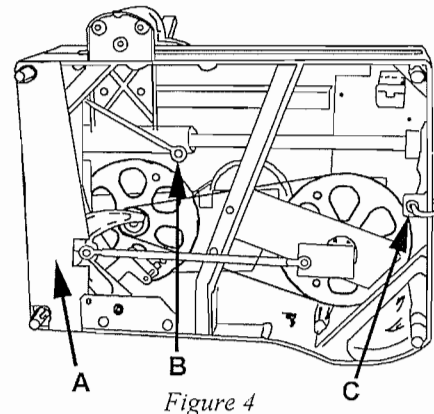

Figure 4
2. Remove the rubber shoes and, with a pair of Vice Grip pliers, remove the upper left leg. This allows you to remove the Aluminum Base Shield Panel, Figure 4, A, which covers the Shift Assembly.
3. Remove the Heyco strain relief clamp that secures the electrical cord to the machine, Figure 4, C, to prevent damage to the clamp while working on the rest of the assembly.
4. Remove the socket head cap screw and washer, Figure 4, B, securing the connecting rod to carriage.